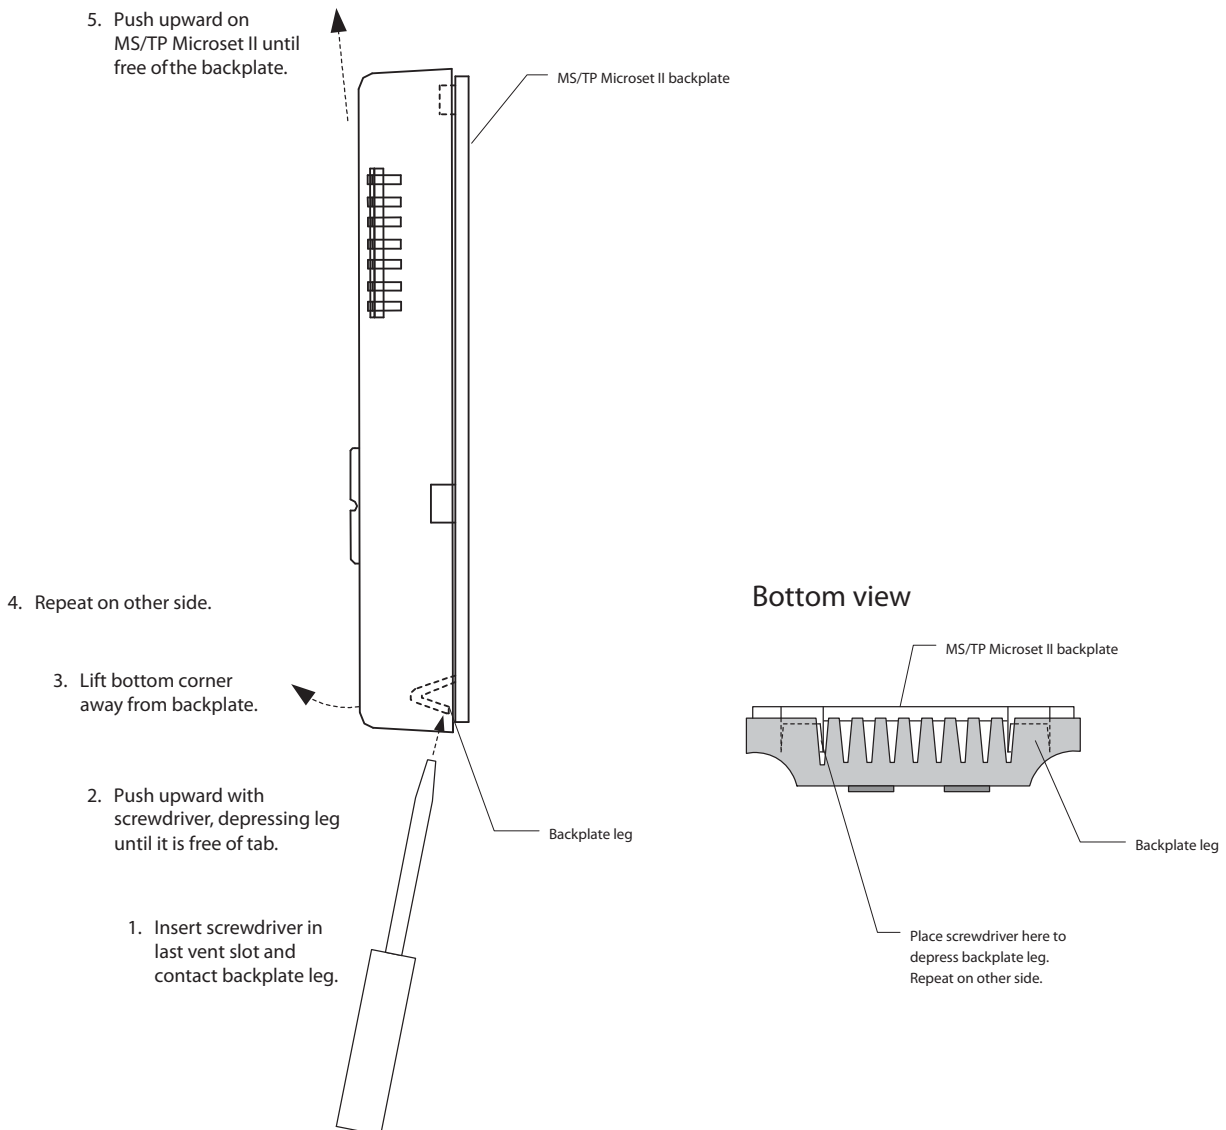

Figure 4 Removal of MS/TP Microset II from backplate.
1. Insert a thin, flat-tipped screwdriver into the last vent slot on the bottom of the MS/TP Microset II. Position the screwdriver so that you can apply pressure to the backplate leg (see Figure 4, bottom view).